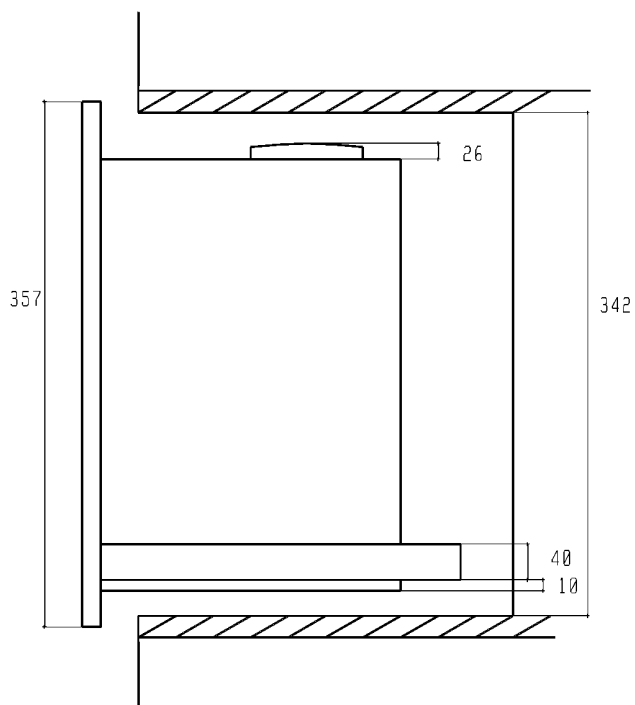

Fig. 5
- Assemble the telescopic runners of the coffee machine in the supports fixed to the inside of the unit; push the runners in until they reach the limit stop and action the safety clamps (fig.5).